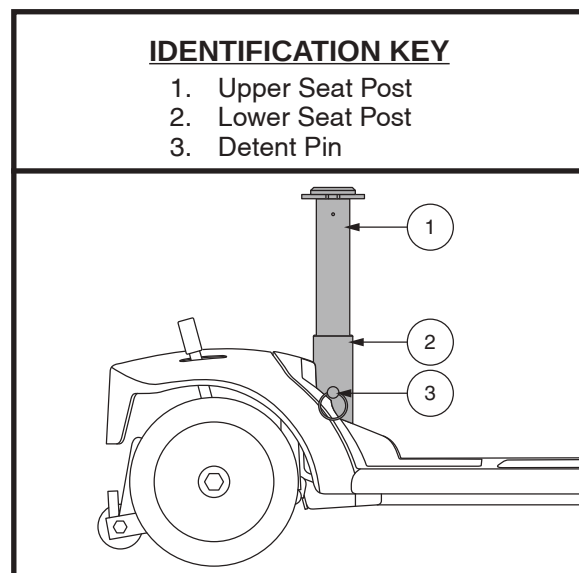

Figure 30. Seat Height Adjustment
The seat can be repositioned to different heights. **See figure 30.**
2. Remove the upper seat post from the Travel Scooter by removing the detent pin from the lower portion of the seat post, then lifting the post straight up and off the Travel Scooter. See figure 30.